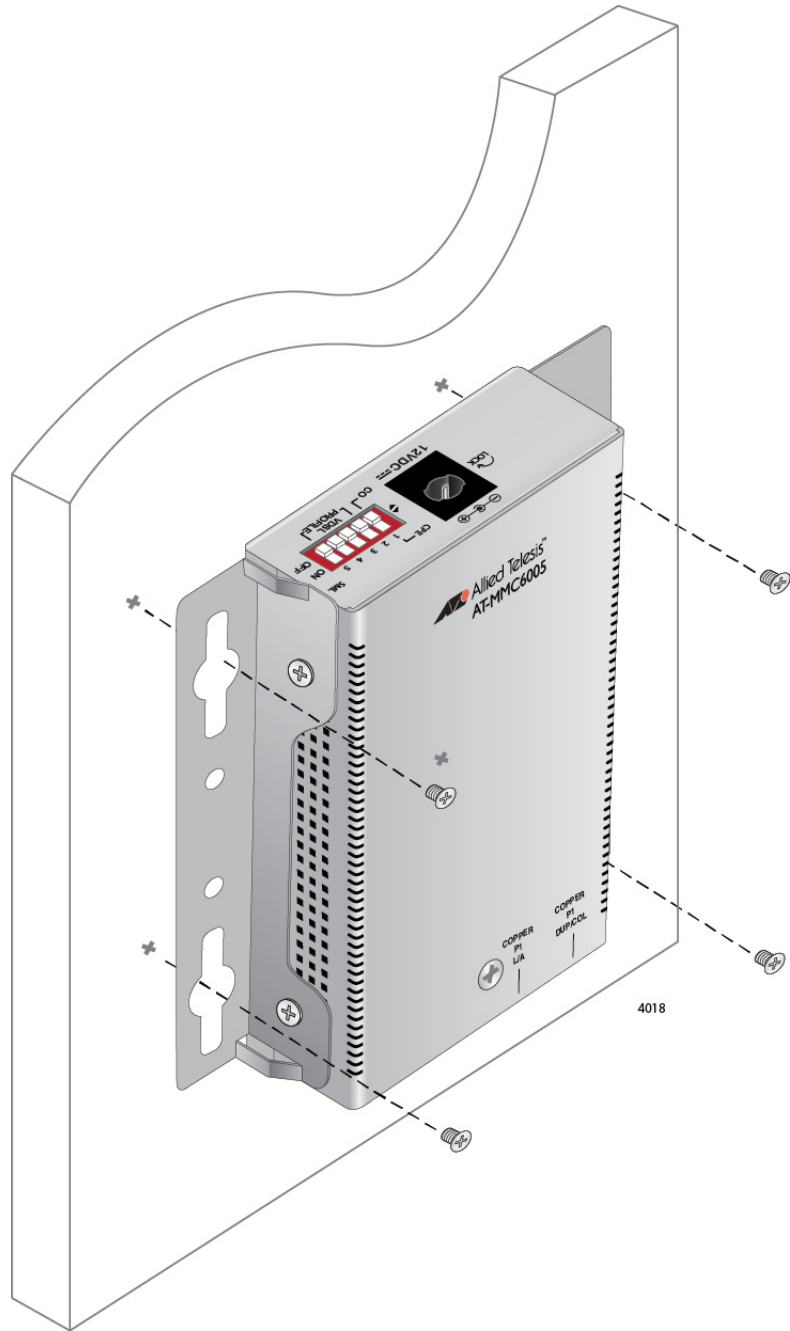

Figure 12. Securing the Media Converter to the Wall
6. Secure the Subscriber unit to the wall using four wall-mounting screws (not provided). See Figure 12 on page 39.
6. Secure the Provider unit to the wall using four wall-mounting screws (not provided). See Figure 12 on page 39.